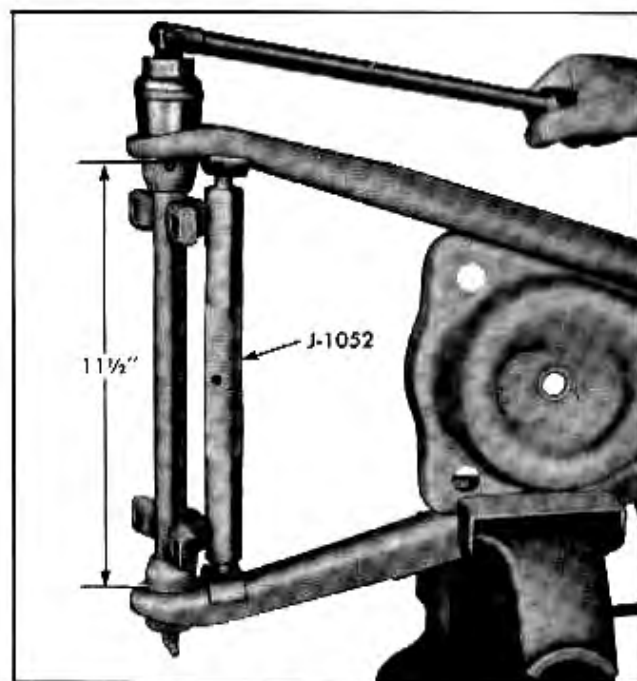

Fig. 3-19 Lower Control Arm Spreader J-1052 Positioned in Lower Control Arm
a. Place tool J-1052 in position and expand until distance between inner faces of arms is $11\frac{1}{2}$ " (Fig. 3-19 and 3-20).